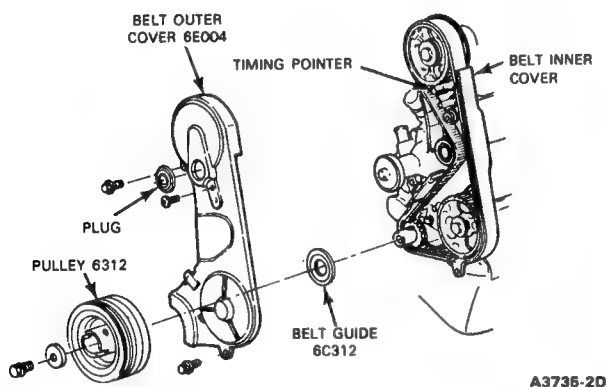

FIG. 36 Camshaft Timing Assembly
2. Remove the timing belt front cover and the belt guide (Fig. 36)